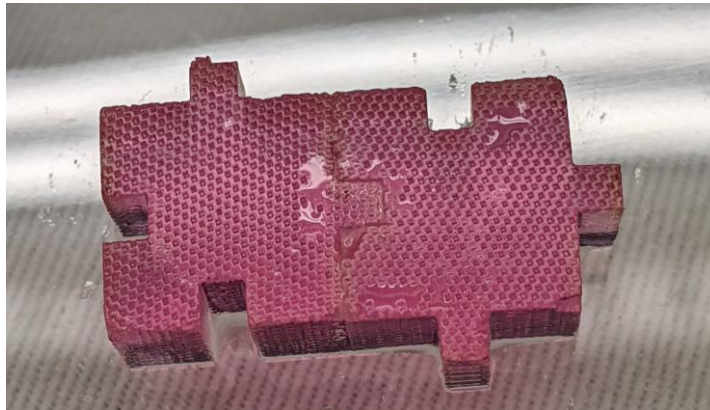

Figure 2. X-Blocks Joined Together for Cell Culture.
- When cells occupy approximately 60% of all cell surfaces within X-Block, join an additional X-Block to the original X-Block by sliding the tongue of new X-Block into a groove of original X-Block as shown in **Figure 2**.